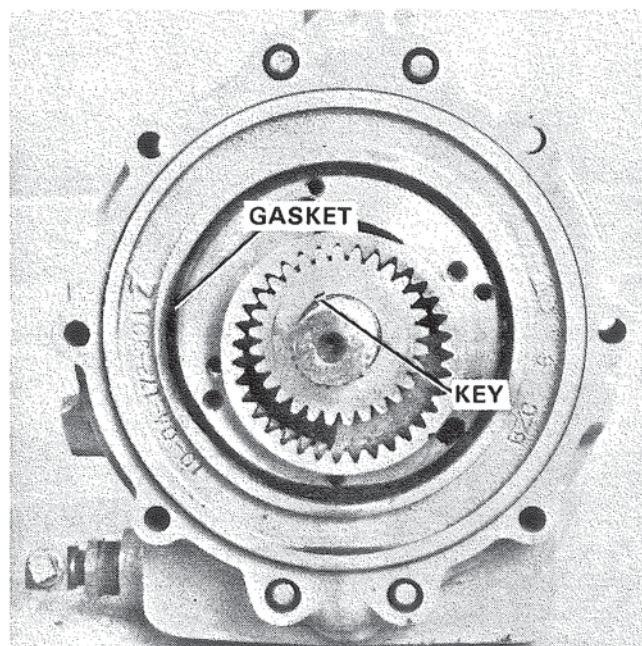

Figure 82. Installing Pump Drive Key and Gasket.
2. Lubricate and install front pump gasket. Figure 82.
3. Install woodruff key. Figure 82.